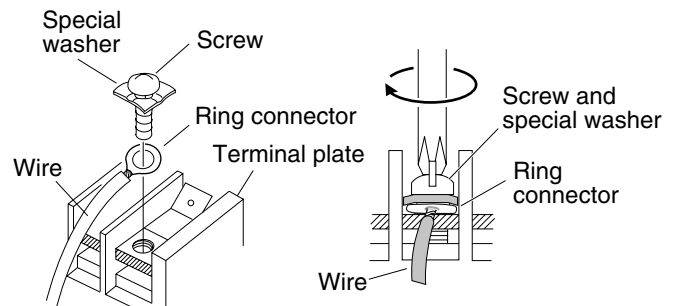

Fig. 3-39
- (4) Place the ring connector wire, and replace and tighten the removed terminal screw using a screwdriver. (Fig. 3-39)